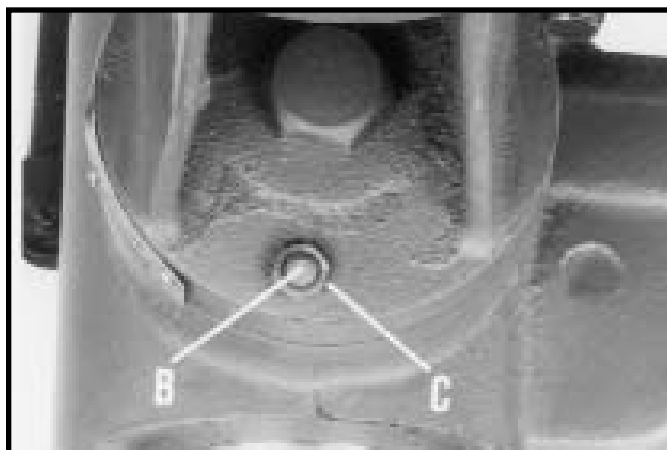

Fig. 20
3. The table can be tilted right or left by pulling out and removing table alignment pin (B) Fig. 20. **NOTE:** If pin (B) is difficult to remove, turn nut (C) clockwise to pull pin out of casting.